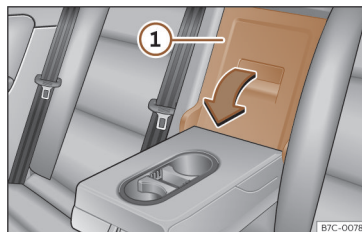

Fig. 116 In the rear seat backrest: opening the trapdoor.
- Pull the release lever in the direction of the arrow and push the tailboard cover >>> Fig. 116 ① down and forwards.